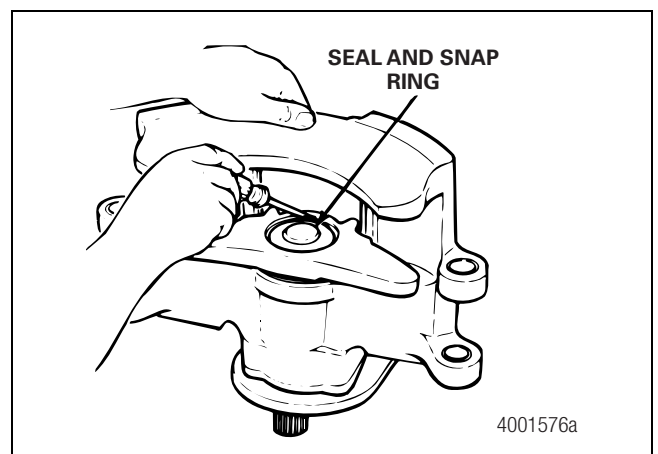

Figure 5.22
17. Position a new seal into the piston bore. Install the snap ring to hold the seal in place. Figure 5.22.